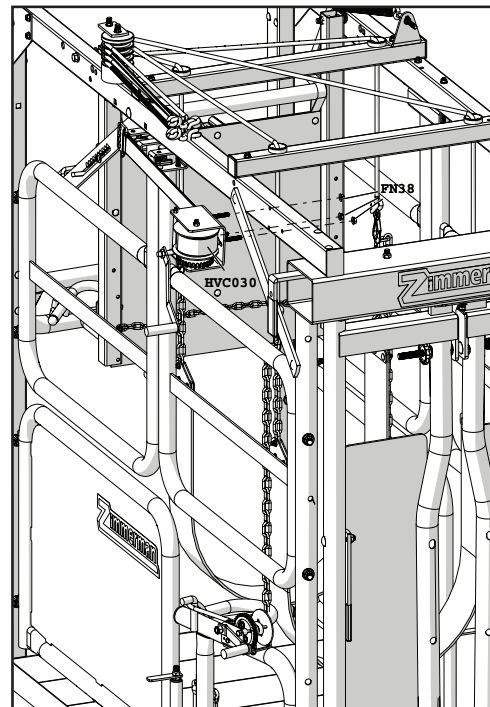

Figure 3: Top winch
3. To operate the back stop, lift the adjustment lever (a) and lift the back stop into the desired position (Figure 3).